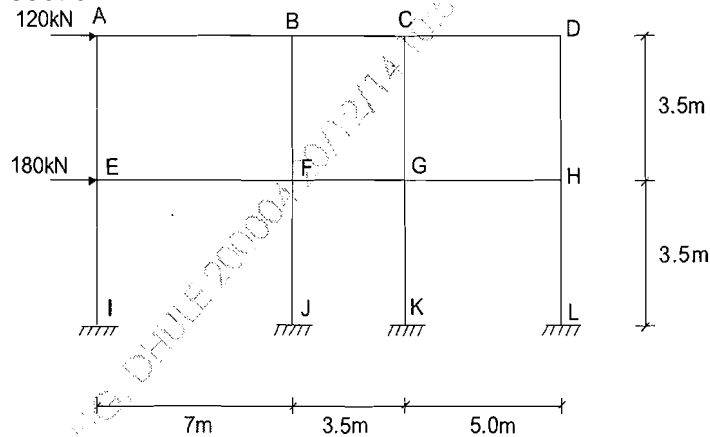

Fig. 4
4. Analyse the building frame as shown in fig. 4 by cantilever method, assuming that – all the columns have same area of cross section. 20